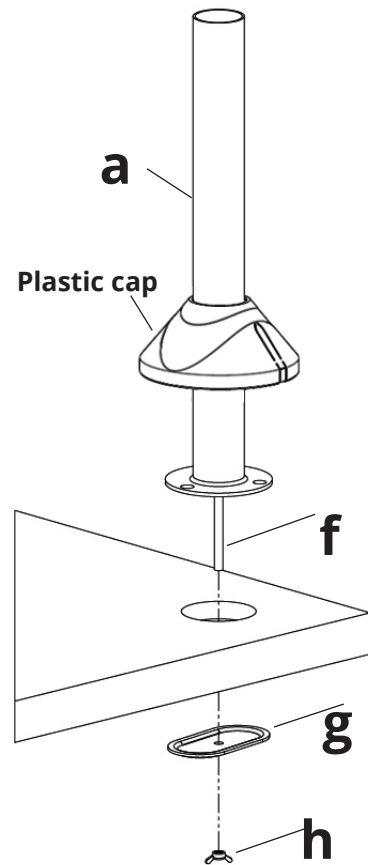

Figure 3
2. Position the 35mm Tube Support (a) on the mounting surface and secure using the Grommet plate (g) and Wing nut (h), see Figure 3.